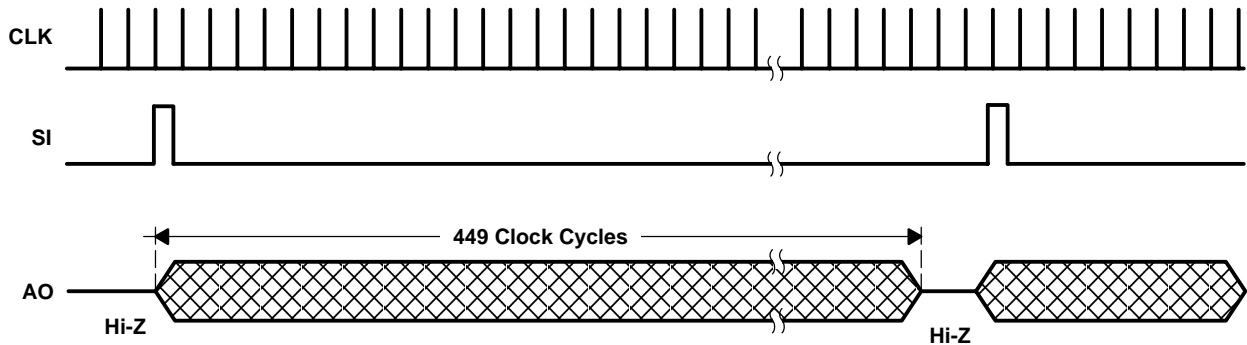

Figure 1. Timing Waveforms (each section)
The output and reset of the integrators is controlled by two 448-bit shift registers and reset logic. A 448-pixel output cycle is initiated by clocking in a logic 1 into the SI input of a section for one positive going clock edge (see Figures 1 and 2)†. The two 448-pixel sections may be operated independently using a single clock input or connected in series to form a 896-pixel array. Each section has an independent output (AO), which may be connected together for the 896-pixel function.
**Recommended Operating Conditions (see Figure 1 and Figure 2)**
### Timing Requirements (see Figure 1 and Figure 2)